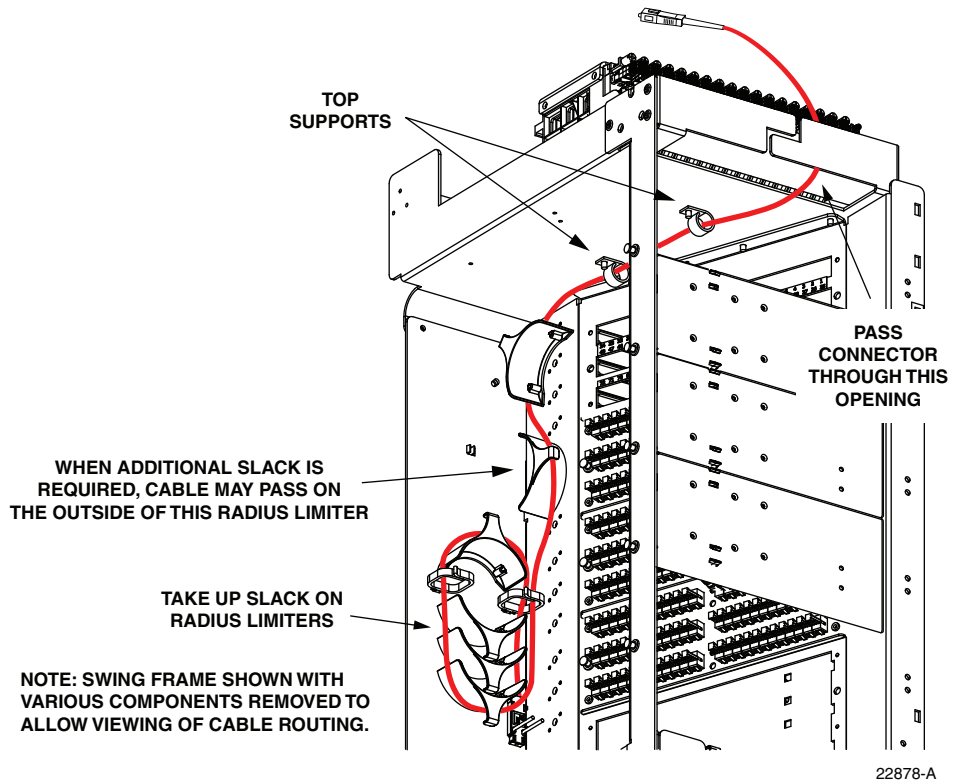

Figure 78. Re-Routing the Feeder Cable Fiber
7. When the feeder cable connector and fiber are free, pass the connector through the opening located behind the splitter compartment as shown in Figure 78.